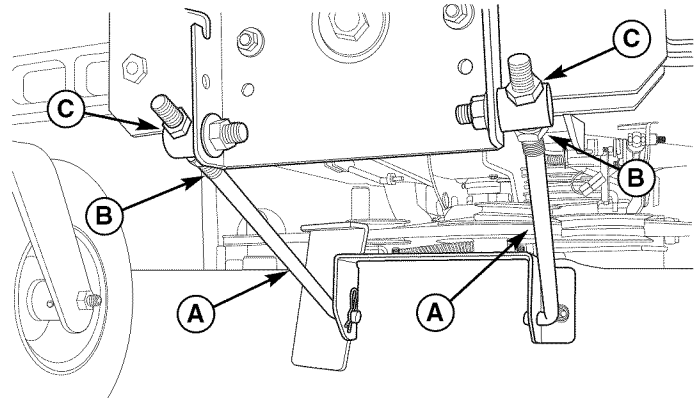

**Figure 42. Orient Blades Front-to-Back**
1. Turn the blades front-to-back as shown in Figure 42. Measure the distance from the ground to front tip of center blade, and from ground to rear tips of left hand and right hand blades (Figure 42). Front tips should be 1/8"-1/4" (3-6 mm) higher than rear tips. If not, proceed to Step 2.